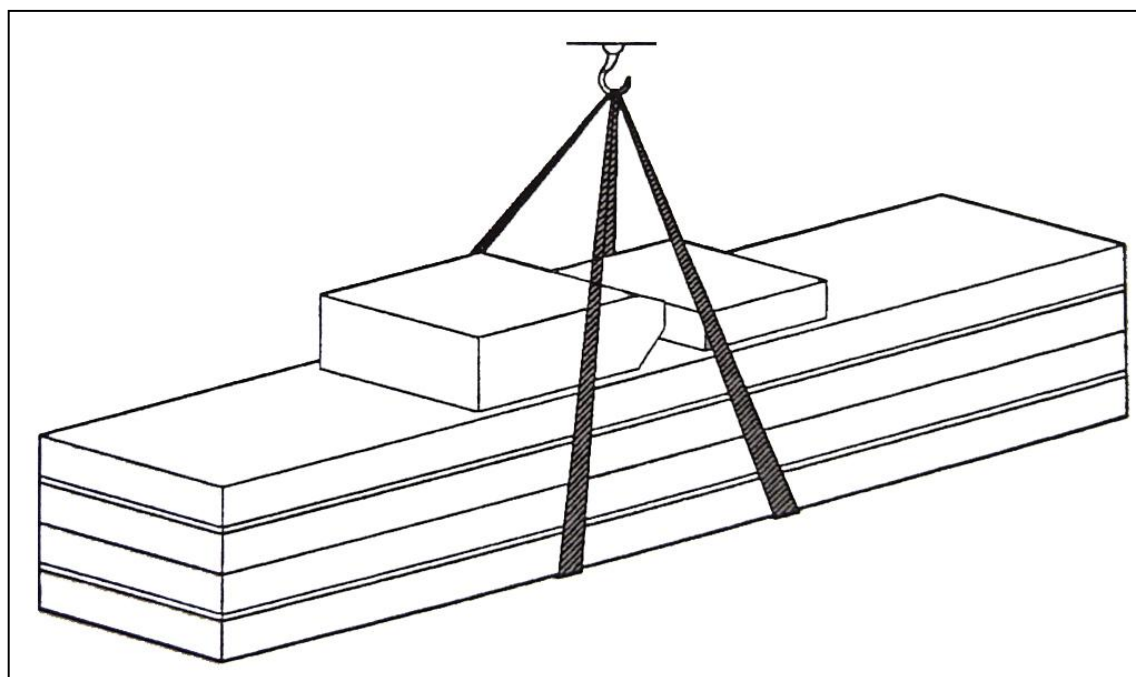

Figure 2
**Transportation** (Figure 2)
In addition, the lifting of goods during loading and unloading shall be operated according to the figure. (Figure 2)